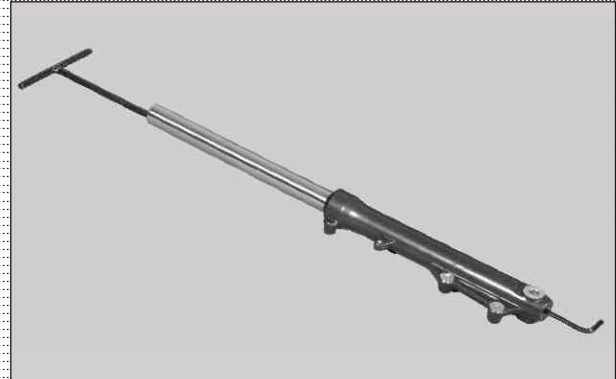

Fig. 6.49
- Holding the piston by using a special tool, remove hexagonal allen screw using allen key. (Fig. 6.49)